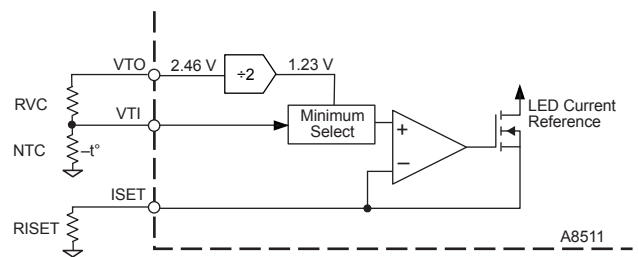

Figure 5. Thermal derating reference circuit
- **Analog dimming using the VTI pin.** External DC voltage can be applied to the VTI pin to control LED current. LED current varies as a function of voltage on the VTI pin. This configuration is shown in figure 5.
Thermal Derating Thermal derating can be achieved by connecting an NTC thermistor between VTI and ground, as shown in figure 5. When the A8511 is enabled and $V_{TI} > 1.1$ V, 100% current for the LEDs is controlled by the ISET and DIM pins. When V_{TI} falls below 1.1 V, V_{ISET} starts to follow V_{TI} , resulting in I_{LEDx} varying proportionately with V_{TI} represented by the overlap of the dotted and solid curves. The proportion of I_{LED} to V_{TI} , when LED current is controlled through the VTI pin, is calculated as: